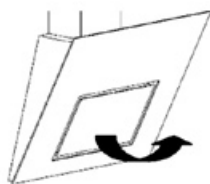

Fig. 1
1. Open the filter casing (Fig. 1).